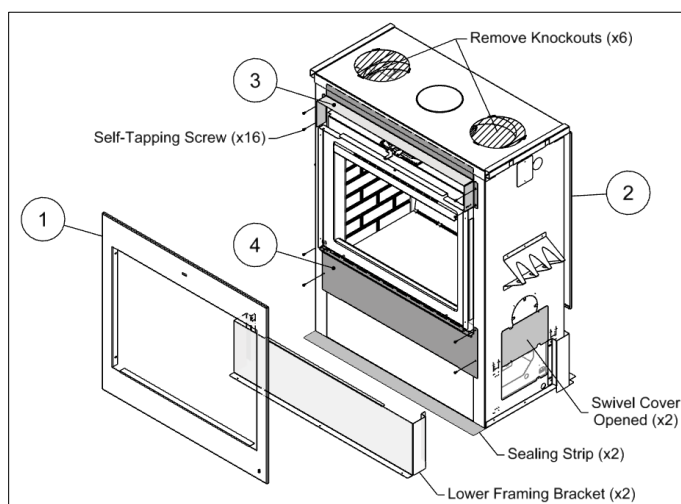

Figure 3-9: Clean Face Surround
The Clean Face Surround comprises no louvers; however, an intake into the chase and an outtake through gravity ducts is required for this configuration. The instructions below describe the installation of the Contemporary surround. Refer to Figure 3-9 and Table 3-4 for the instructions below. Refer to Section 3.5 for Gravity Kit installation instructions.
5. Secure the Intake Swivel Covers on the bottom sides of the unit to the **open** position (Figure 3-9).
6. Remove the 8" knockouts at the top exterior case (2X), the top interior case (2X) and the top interior shield (2X) of the unit using a flat head screwdriver (Figure 3-9).
- The intake swivel covers at the bottom sides must remain open for all Clean Face Surround installations (refer to Figure 3-9).